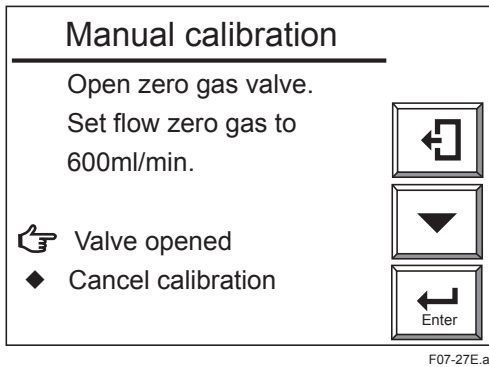
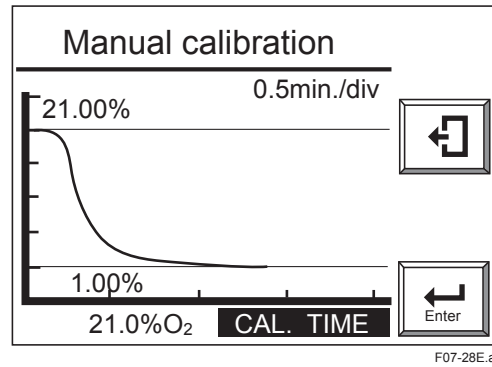

Figure 7.27 Zero Gas Flow Display (for Manual calibration)
Figure 7.28 Manual Calibration, Trend Graph
- (7) Follow the instructions in the display as in Figure 7.27 to turn on the zero gas flow. To do this, open the zero gas flow valve for the Flow Setting Unit and adjust that valve to obtain a flow of  $600 \pm 60$  ml/min.
- (8) If "Valve opened" is selected as in Figure 7.27, an oxygen concentration trend graph (with the oxygen concentration being measured) appears (see Figure 7.28). The CAL.TIME in the bottom area of the panel flashes. Observe the trend graph and wait until the measured value stabilizes in the vicinity of the zero gas concentration on the graph. At this point, no calibration has been executed yet, so even if the measured value is above or below the zero gas concentration value, no problem occurs.